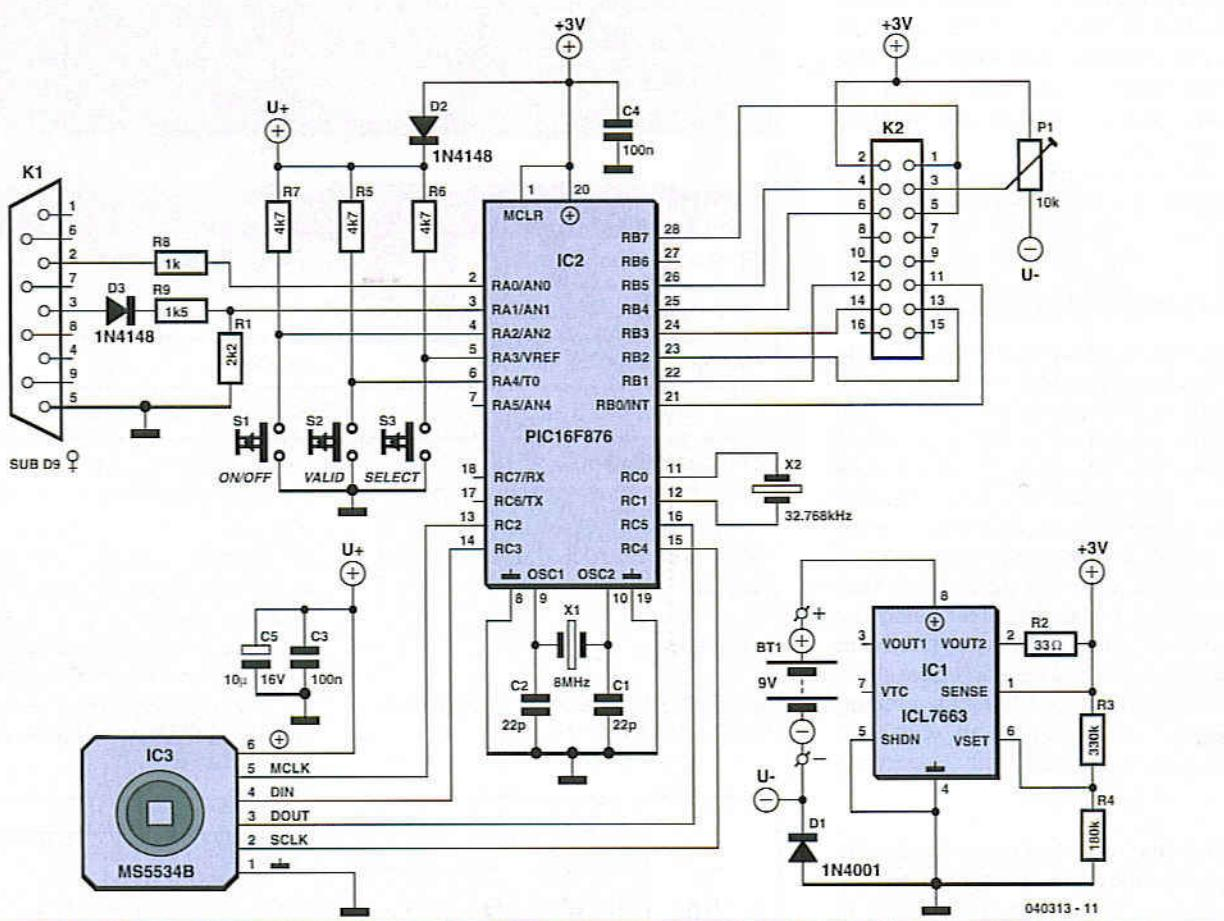

Figure 2. By using highly specialised components, the electronics for the barometer/altimeter remains uncluttered.
As already mentioned, the microcontroller, IC2, a PIC16F876 occupies the central position in the circuit diagram (Figure 2). The clock is driven by quartz crystal X1 ticking at 8 MHz, which makes for sufficiently fast operation, even in altimeter mode. Timer 1 is configured to use its own external oscillator built around X2 (32.768 kHz). The quartz accuracy determines the clock accuracy. A ± 20 ppm (20/1,000,000) crystal will cause a typical error of ± 1.7 seconds per day. K1, with only 3 contacts utilized, Rx/D (2), TxD (3) and Ground (GND, 5), is used to connect the circuit to the PC's serial port (COM) in order to transfer data.